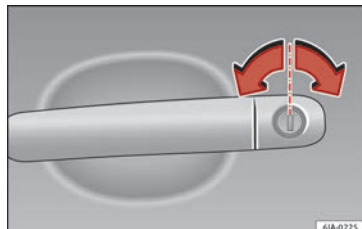

Fig. 3 Driver-side door handle with lock cylinder.
- Insert the key shaft into the lock cylinder to unlock or lock the vehicle » Fig. 3.